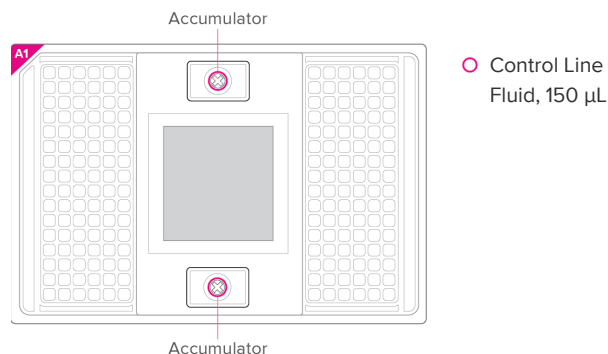

Figure 3. Accumulators on the GE 96.96 IFC
- 3 Inject Control Line Fluid into each accumulator on the IFC (see Figure 3). Use the entire contents of one syringe in each accumulator.